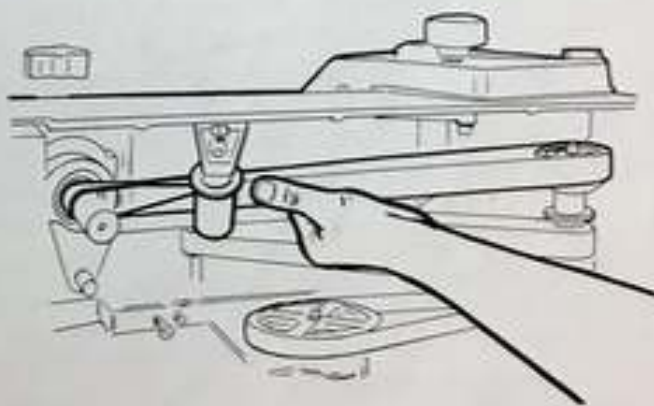

fig. 65
- 3) Mount the spindle moulder drive belt on the spindle *first*, then pass it under the belt tensioning device (Fig. 65) and mount it on its drive pulley.